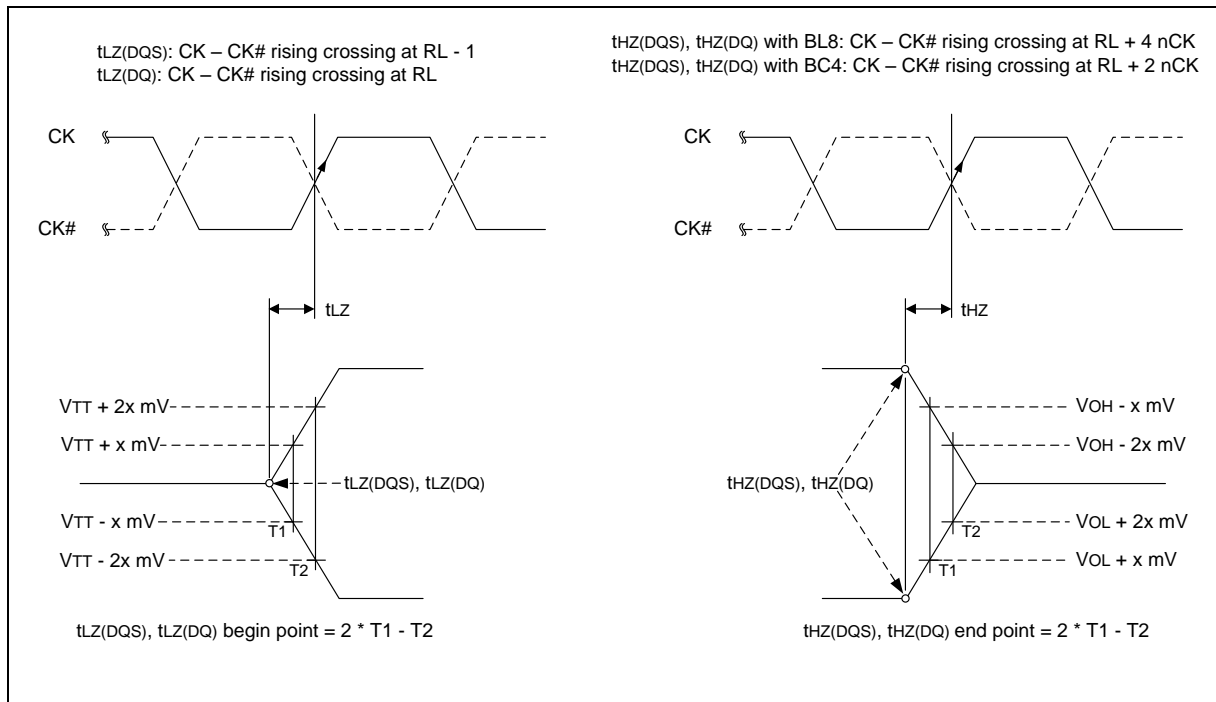

Figure 26 – tLZ and tHZ method for calculating transitions and endpoints
$t_{LZ}(DQS)$, $t_{HZ}(DQS)$ for preamble/postamble (see section 8.13.2.3 and Figure 26).
8.13.2.3 tLZ(DQS), tLZ(DQ), tHZ(DQS), tHZ(DQ) Calculation
thZ and tLZ transitions occur in the same time window as valid data transitions. These parameters are referenced to a specific voltage level that specifies when the device output is no longer driving thZ(DQS) and thZ(DQ), or begins driving tLZ(DQS), tLZ(DQ). Figure 26 shows a method to calculate the point when the device is no longer driving thZ(DQS) and thZ(DQ), or begins driving tLZ(DQS), tLZ(DQ), by measuring the signal at two different voltages. The actual voltage measurement points are not critical as long as the calculation is consistent. The parameters tLZ(DQS), tLZ(DQ), thZ(DQS), and thZ(DQ) are defined as singled ended.